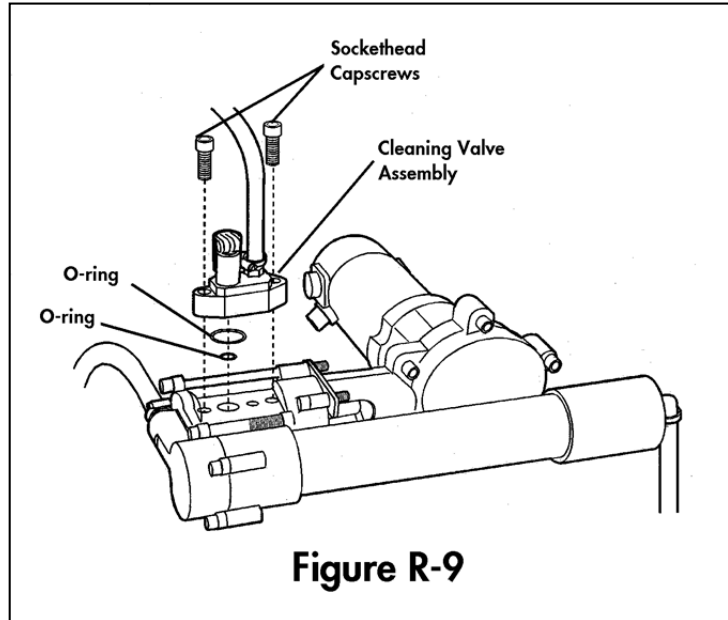

Figure R-9
13. To replace the o-rings beneath the cleaning valve assembly, refer to **Figure R-9**. Unscrew the